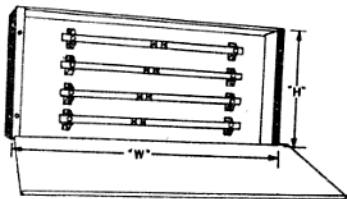

Fig. 2.3 Distribution busbar chamber
**Distribution Busbar Chamber** A busbar chamber consists of heavy thick copper strips insulated from each other and from the enclosed metallic covering chamber (Fig. 2.3). Cable lugs of different distribution fuse boards